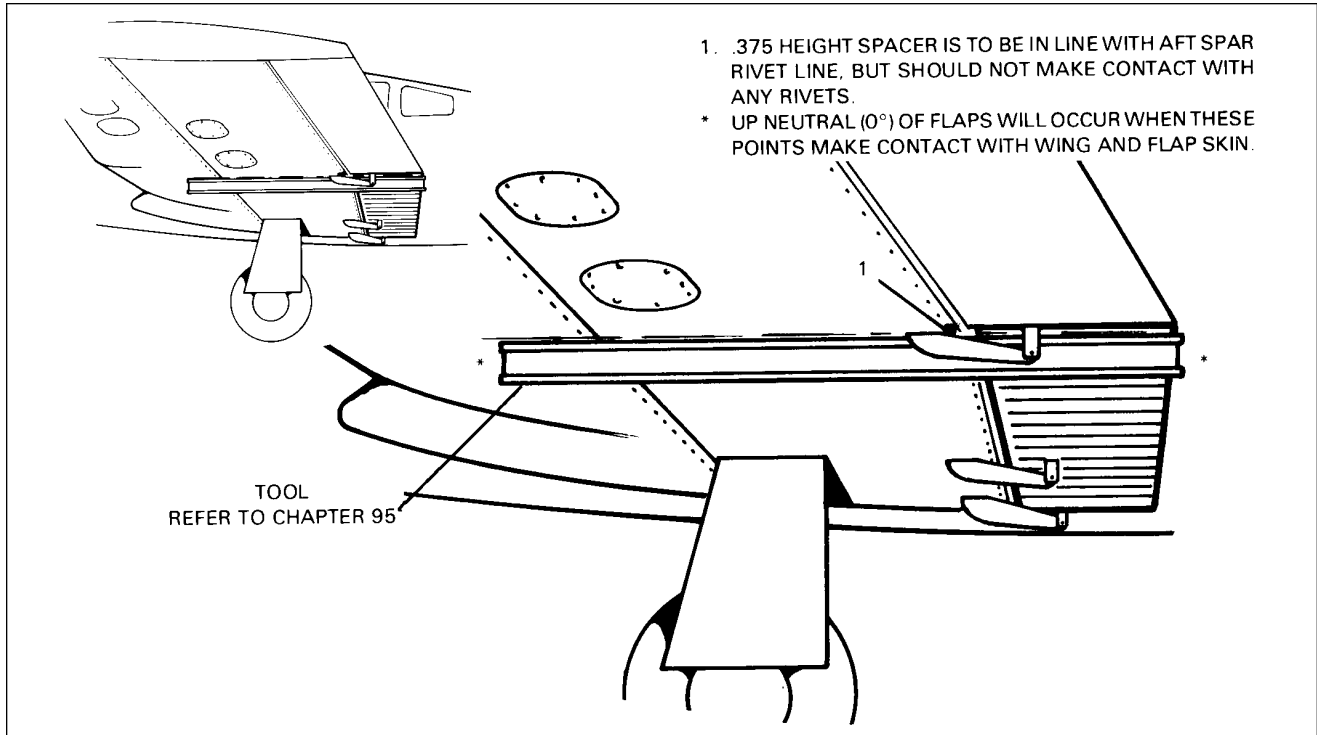

Figure 27-21. Flap Rigging Tool
7. To check up-neutral position of the flaps, place a flap rigging tool as shown in Figure 27-21 against the underside of the wing and flap as close as possible to the outboard end of the flap without contacting any rivets. The tool must be positioned parallel with the wing ribs with the aft end of the tool even with the trailing edge of the flap. (This tool may be fabricated from dimensions given in Chapter 95.)